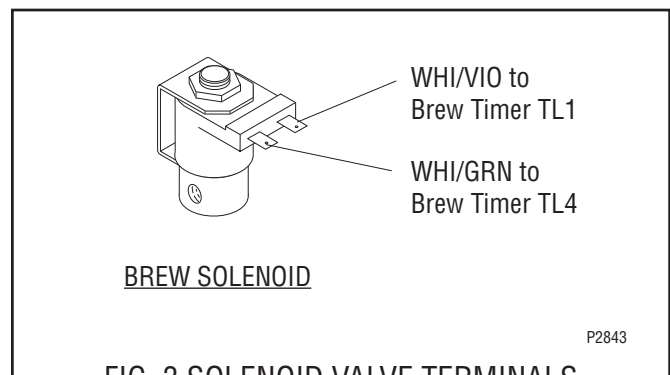

FIG. 3 SOLENOID VALVE TERMINALS
10. Refer to the Fig. 3 when reconnecting the wires